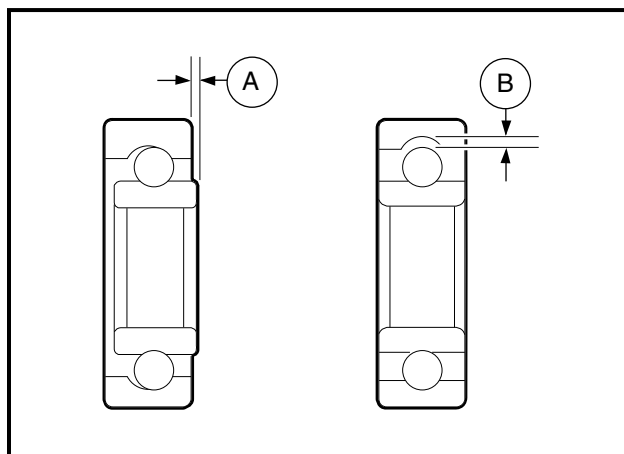

FIGURE 12-43
- Using a clean cloth, wipe the carbon dust off of the two bearings. Inspect bearings by spinning them by hand and checking for both axial (A) and radial (B) play (**Figure 12-43**).